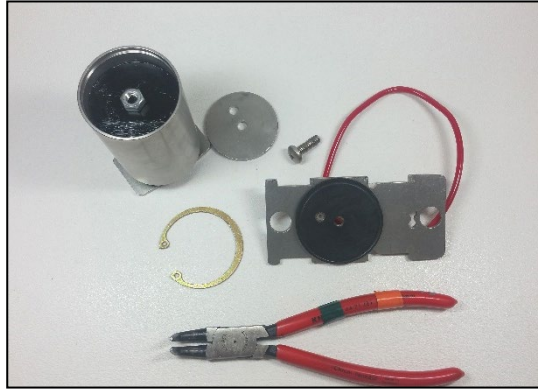

Fig 69
10. Remove the snap ring, gasket & steel washer. You may need a pair of snap ring pliers to easily remove the snap ring from the cylinder. (Fig 69)